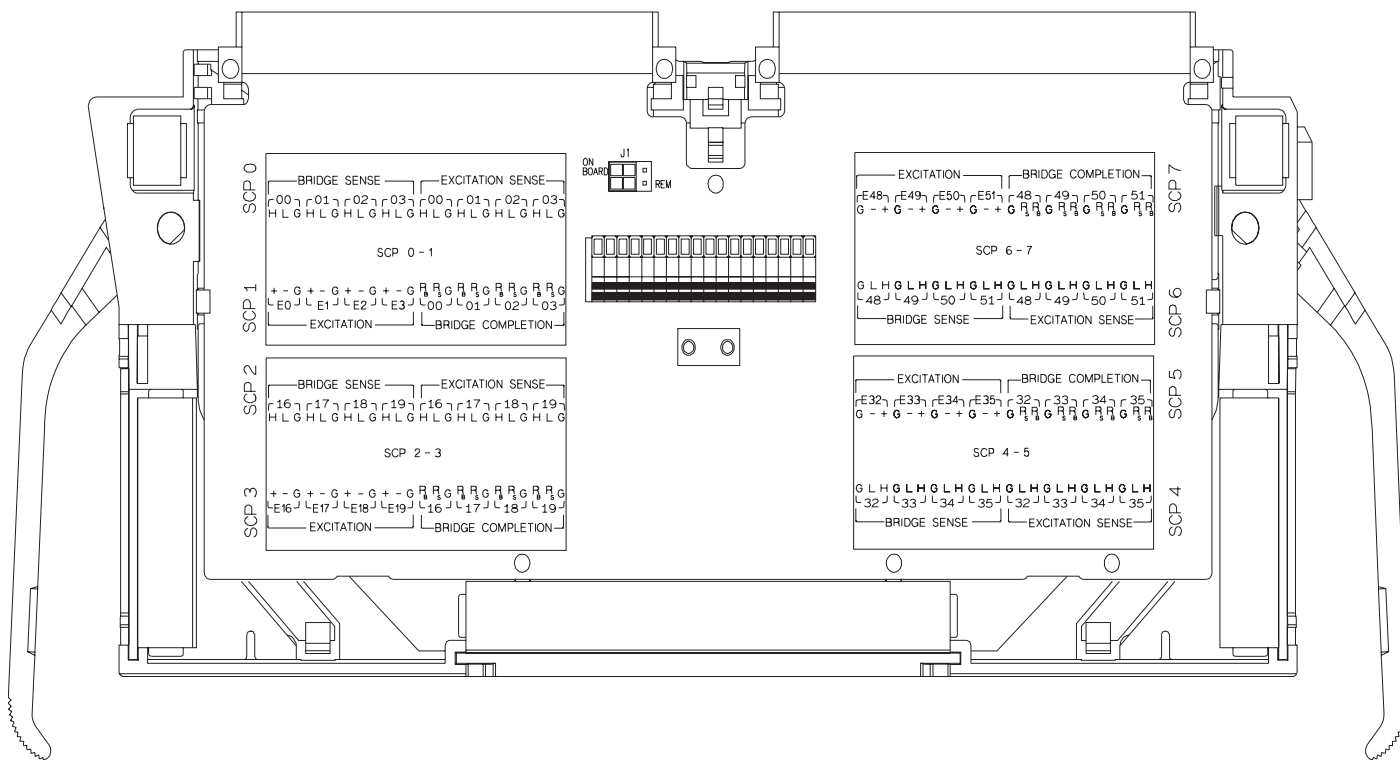

Figure 5 VT1511A C-Size Terminal Module Connections
- For VT1413C and above Terminal Modules, use stickers for VT1510A SCPs. The connections are shown in Figure 5.